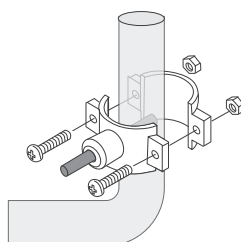

Figure 9
c. Slip the front plate over one end of the tubing (without a mark) and insert the tubing into the drilled hole for about 0.6" (**Figure 9**).